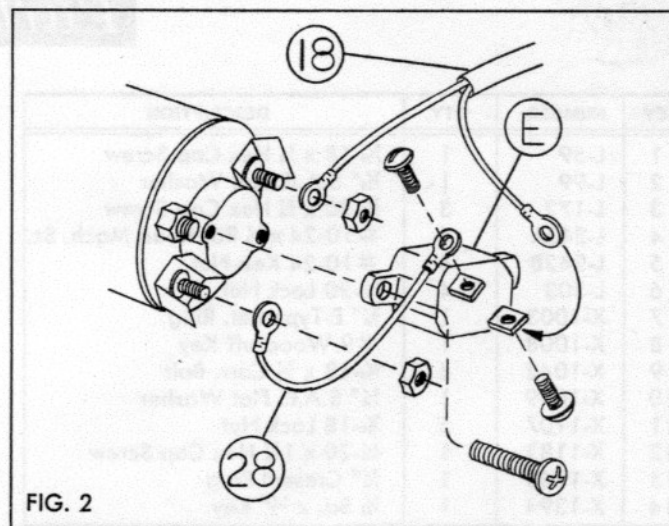

FIG. 2
9. Assemble Cord Clip (19) on Cord (18) and squeeze Clip together with Pliers.
10. Remove Cover Cap from Motor. Install one #211A3530P1 circuit breaker (E) on top of the motor. Connect one of the cord (18) ends to a circuit breaker terminal. Then connect the small jumper wire (28) from the other circuit breaker terminal to one of the motor terminals. Connect the other cord end directly to the remaining motor post. See Fig. 2. Mount Switch (27) to Adjustment Bracket (D). Connect Split Wires to ON-OFF Switch.
11. Snap Cord Clamp (21) to Adjustment Tube of Sweeper with Cord in notch of Clamp.
12. Mount Belt Guard (25) to Chassis using four Machine Screws (4) and Lock Nuts (5).
13. Attach Cord Clip (19) between Fender and Battery Box.